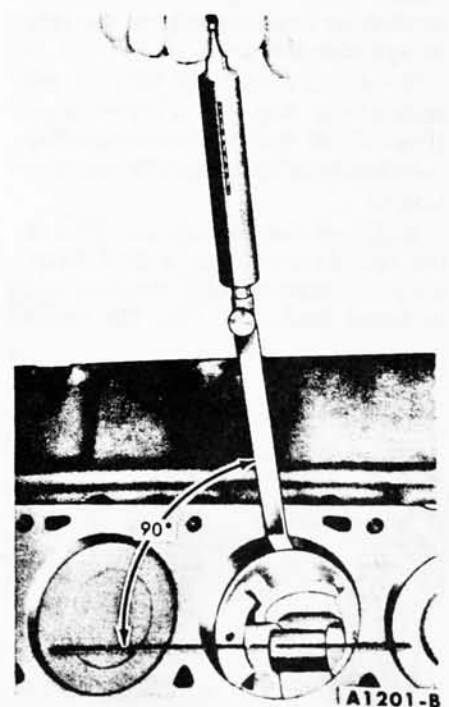

FIG. 75—Checking Piston Fit
5. Position the ribbon in the cylinder bore so that it extends the entire length of the piston at 90° from the piston pin location. Invert the piston and install it in the bore so that the end of the piston is about 1½ inches below the top of the cylinder block and the piston pin is parallel to the crankshaft axis. Hold the piston and slowly pull the scale in a straight line with the ribbon, noting the pull required to remove the feeler ribbon (Fig. 75).